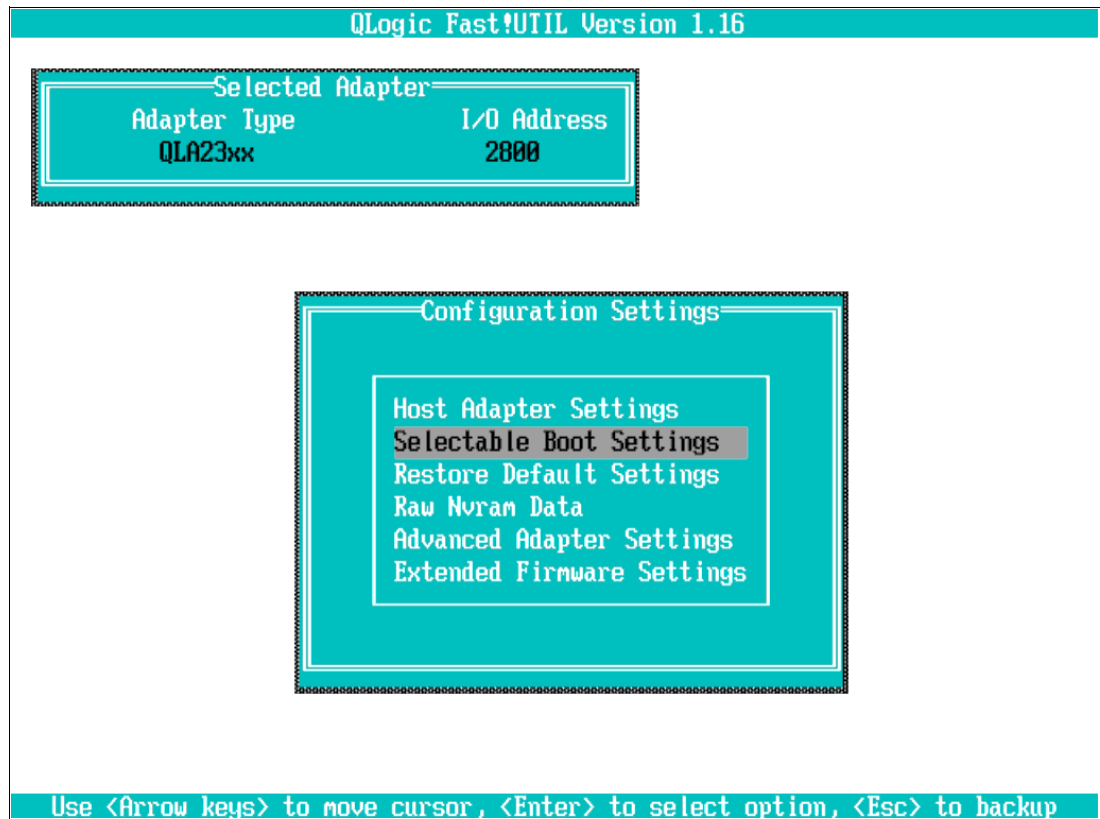

Figure 27-28 Selectable Boot Settings menu option
1. Select the first FC HBA adapter and then **Configuration Settings** → **Selectable Boot Settings**. This is shown in Figure 27-28.